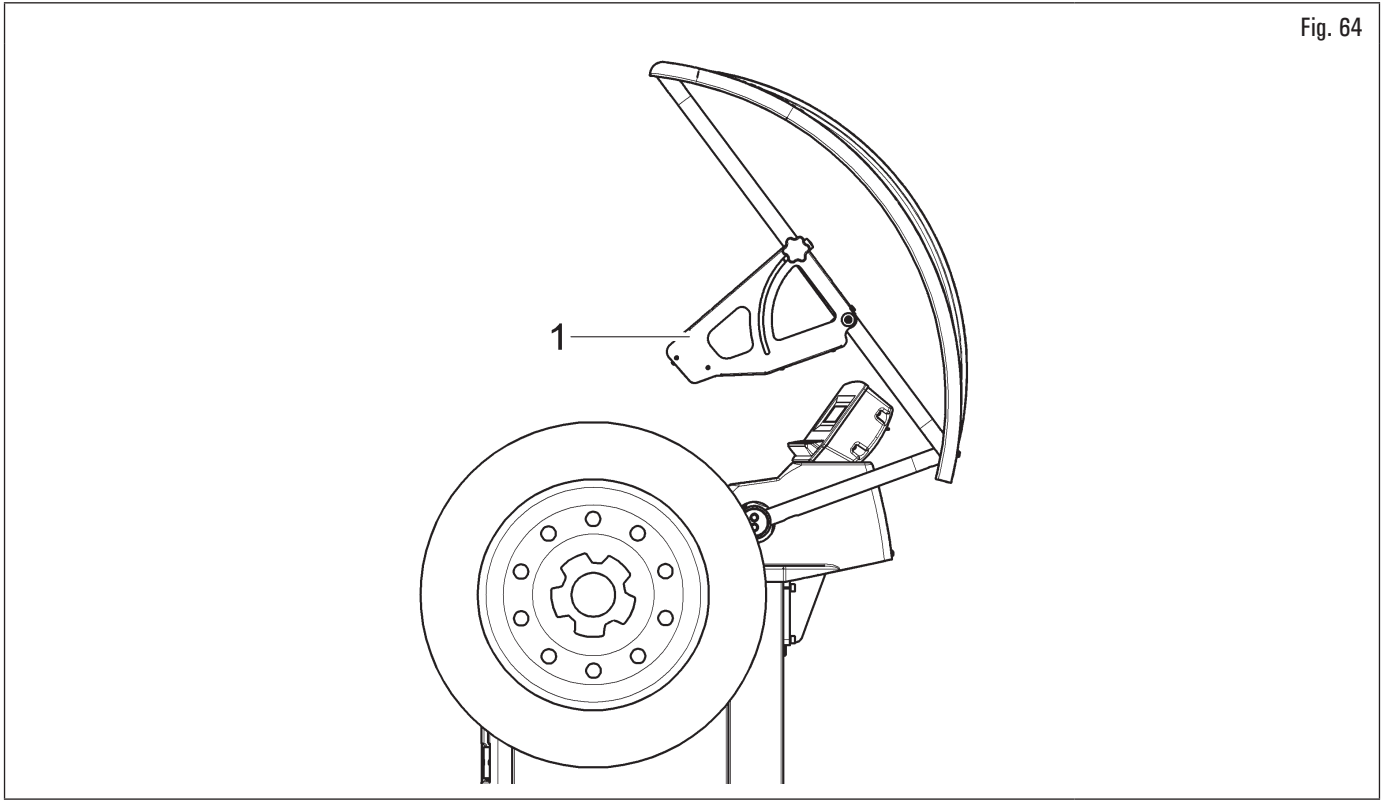

Fig. 64
Ultrasound sensor support (Fig. 64 and Fig. 65 ref.1) must be used in the "fully-lowered" position, as shown in Fig. 64. However with wheels with great diameter, you can set it higher so that the wheel can be mounted easily onto the chuck (see Fig. 65). In order to carry out the adjustment, just loosen the handwheel (Fig. 65 ref. 2) and place the support in the desired position. At the end tighten the handwheel (Fig. 65 ref. 2).